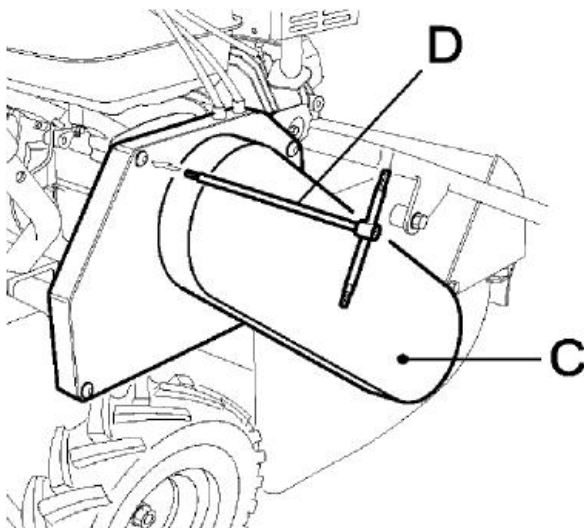

Figure 8
Remove the plastic guard (Fig 8 rif C), by undoing and removing the fixing screws using the wrench illustrated in fig 8 rif. D. Remove the pin that secures the fork.
- Remove the plastic guard, by unscrewing and taking out the screws shown using the wrench illustrated **in fig. 8 pos D**
- Remove the plastic guard (fig. 8 ref.C), by undoing and removing the fixing screws using the wrench illustrated in 8 ref. D.
- The belt guards (Fig. 8 ref.C) and flail guards (Fig. 1 ref. H) must always be correctly installed and intact. If they become damaged, have them repaired before the machine is used again.
- Clean the inside of the belt guard (fig. 8, ref.C) with a blast of compressed air.